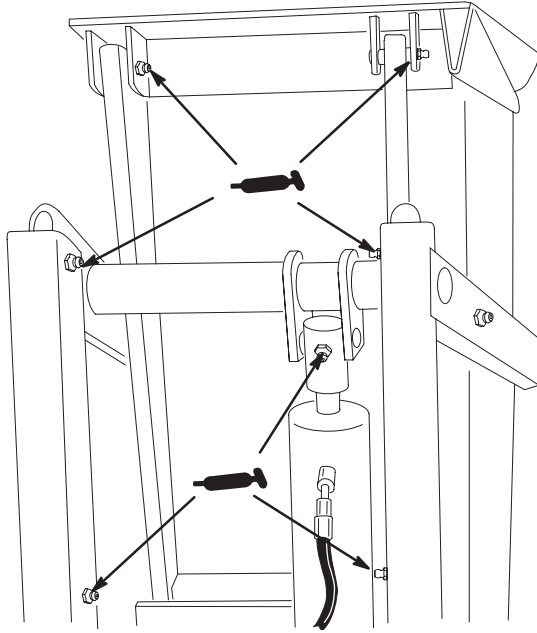

Figure 23
After every 25 hours of operation grease cylinder and pivot points with No. 2 multi-purpose lithium base grease. There are (8) grease fittings at various pivot points and (1) fitting on each end of cylinder (Fig. 23).